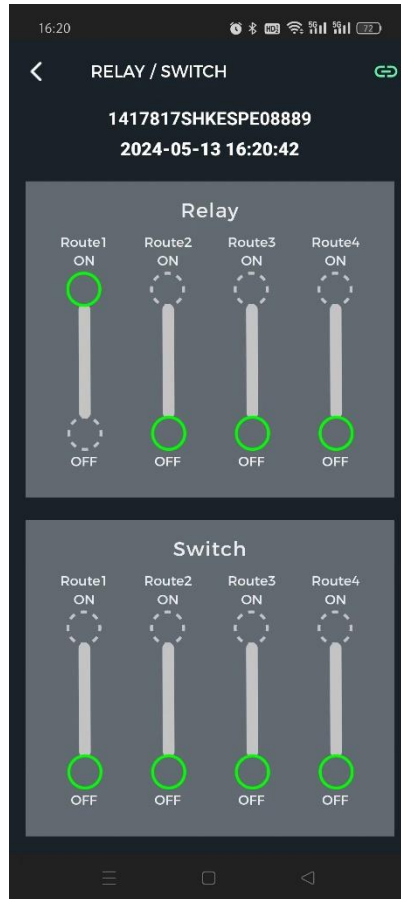

Figure 27: Battery relay information & switch information
(5) Relay & Switch information. Click "Relay/Switch" in the navigation page of real-time monitoring function of Battery pack, direct to FIG. 27.